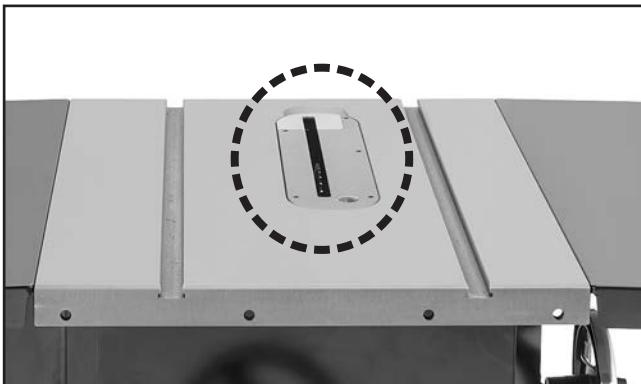

Figure 26. Standard table insert installed.
17. Install table insert in table opening (see **Figure 26**). Check to make sure it is flush and adjust if necessary (see **Table/Dado Insert Adjustment** on **Page 76**).